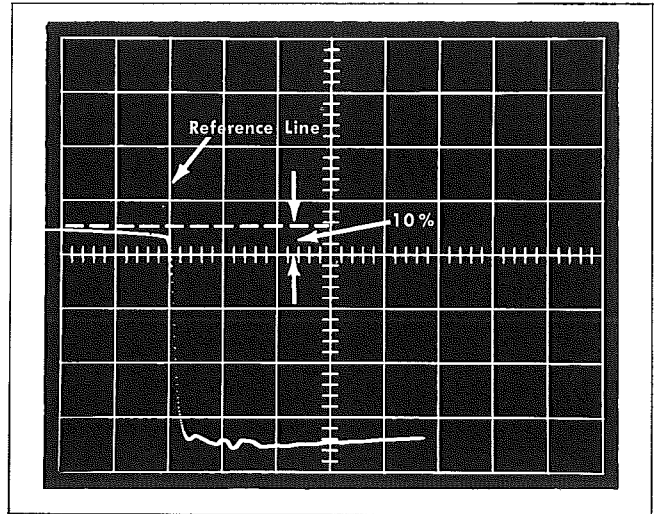

Fig. 2-10. Establishing the turn-on reference line from the 10% level of the switching-pulse leading edge.
3. Readjust the oscilloscope sweep rate to display the switching-pulse leading edge as shown in Fig. 2-10. Horizontally position the display so the 10% level coincides with a convenient vertical graticule line. This establishes the turn-on reference line; therefore, do not adjust the horizontal position control during the remainder of this procedure.